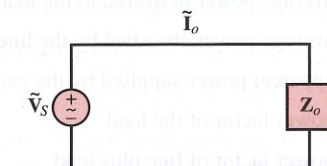

Figure P7.13
- 7.13** For the following numeric values, determine the average power, P , the reactive power, Q , and the complex power, S , of the circuit shown in Figure P7.13. Note: Phasor quantities are rms.
- 7.14** For the circuit of Figure P7.13, determine the power factor for the load Z_o and determine whether it is leading or lagging for the following conditions:
- 7.15** For the circuit of Figure P7.13, determine whether the load is capacitive or inductive, assuming:
7.23 For the following numerical values, determine the capacitance to be placed in parallel with the load Z_o shown in Figure P7.13 that will result in a unity power factor seen by the voltage source. Assume $\omega = 377 \text{ rad/s}$.
7.24 For the circuit of Figure P7.13, determine the power factor of the load for each case listed below. Is it leading or lagging?
7.25 For the circuit of Figure P7.13, determine whether the load Z_o is capacitive or inductive, if: